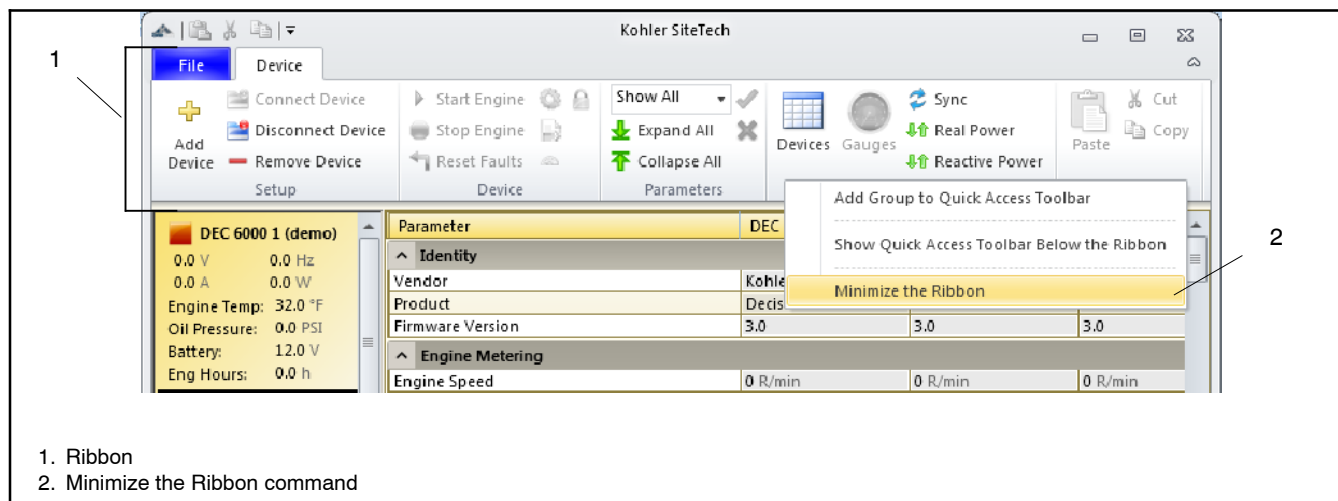

Figure 3-15 The Ribbon
- Other commands, shown in Figure 3-15